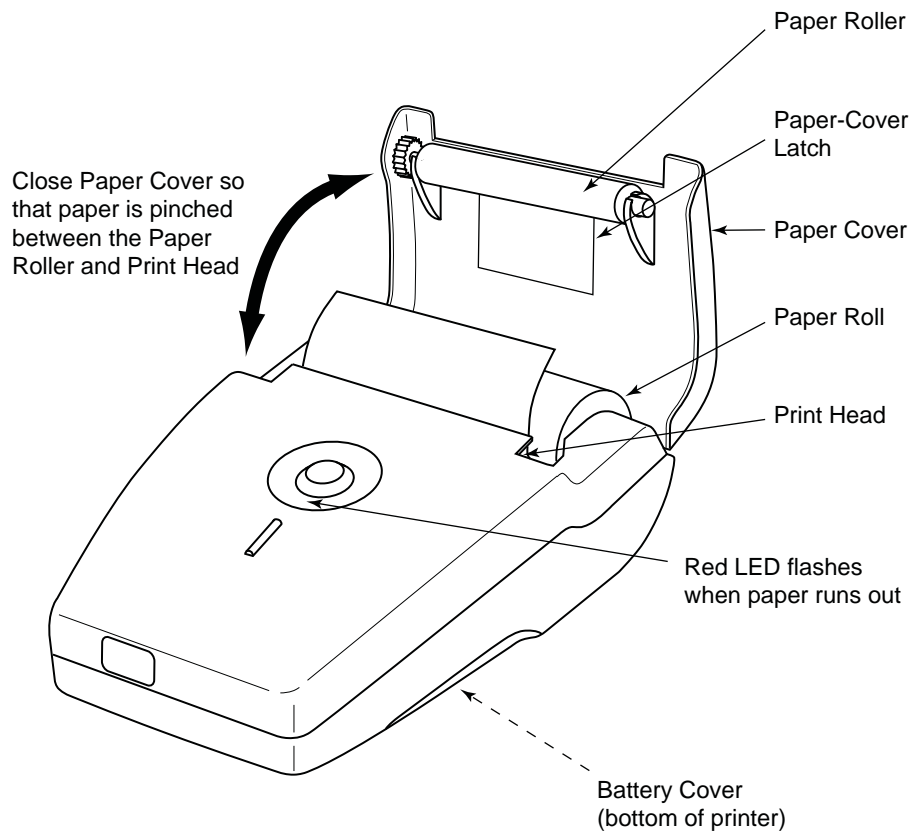

Figure 3. Maintenance
1. Lift up paper cover latch and then open paper cover as shown in Figure 3.